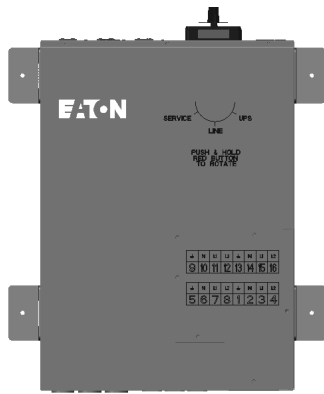

Figure 12. BPM with Wallmount Brackets
2. Use the provided wallmount brackets to firmly secure the BPM to the wall (Figure 12).